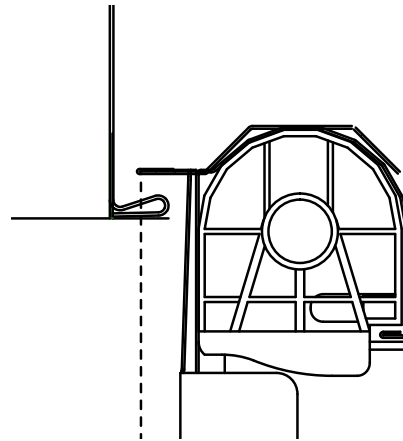

Fig. 1.8
- Place the top panel in position the same as lower panels, making sure that the side seals are aligned and the top seal and the lintel seal are positioned as shown in Fig 1.8 with a minimum gap of 5mm.